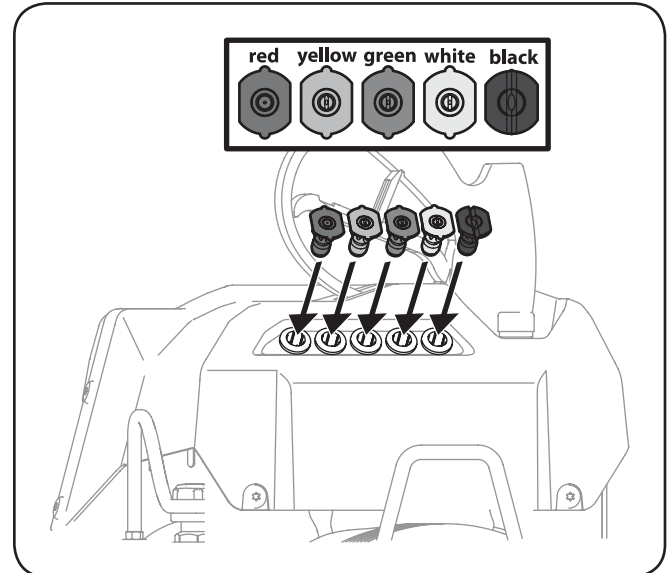

Figure 3-2
2. Locate the bag containing the 5 multi-colored spray nozzles, included with the loose parts in the carton. Insert the tips into the provided mounting holes on the pressure washer main unit. Follow the color pattern provided on the label on the unit for the proper order in which to install these tips. See Figure 3-2.